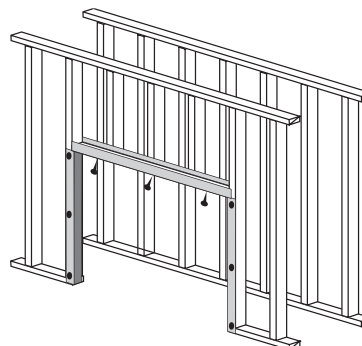

Figure 9b. Combustible Framing Heat Shield, completed.
Step 3. Nail or screw the top shield in place flush with framing, as shown in figure 9b.